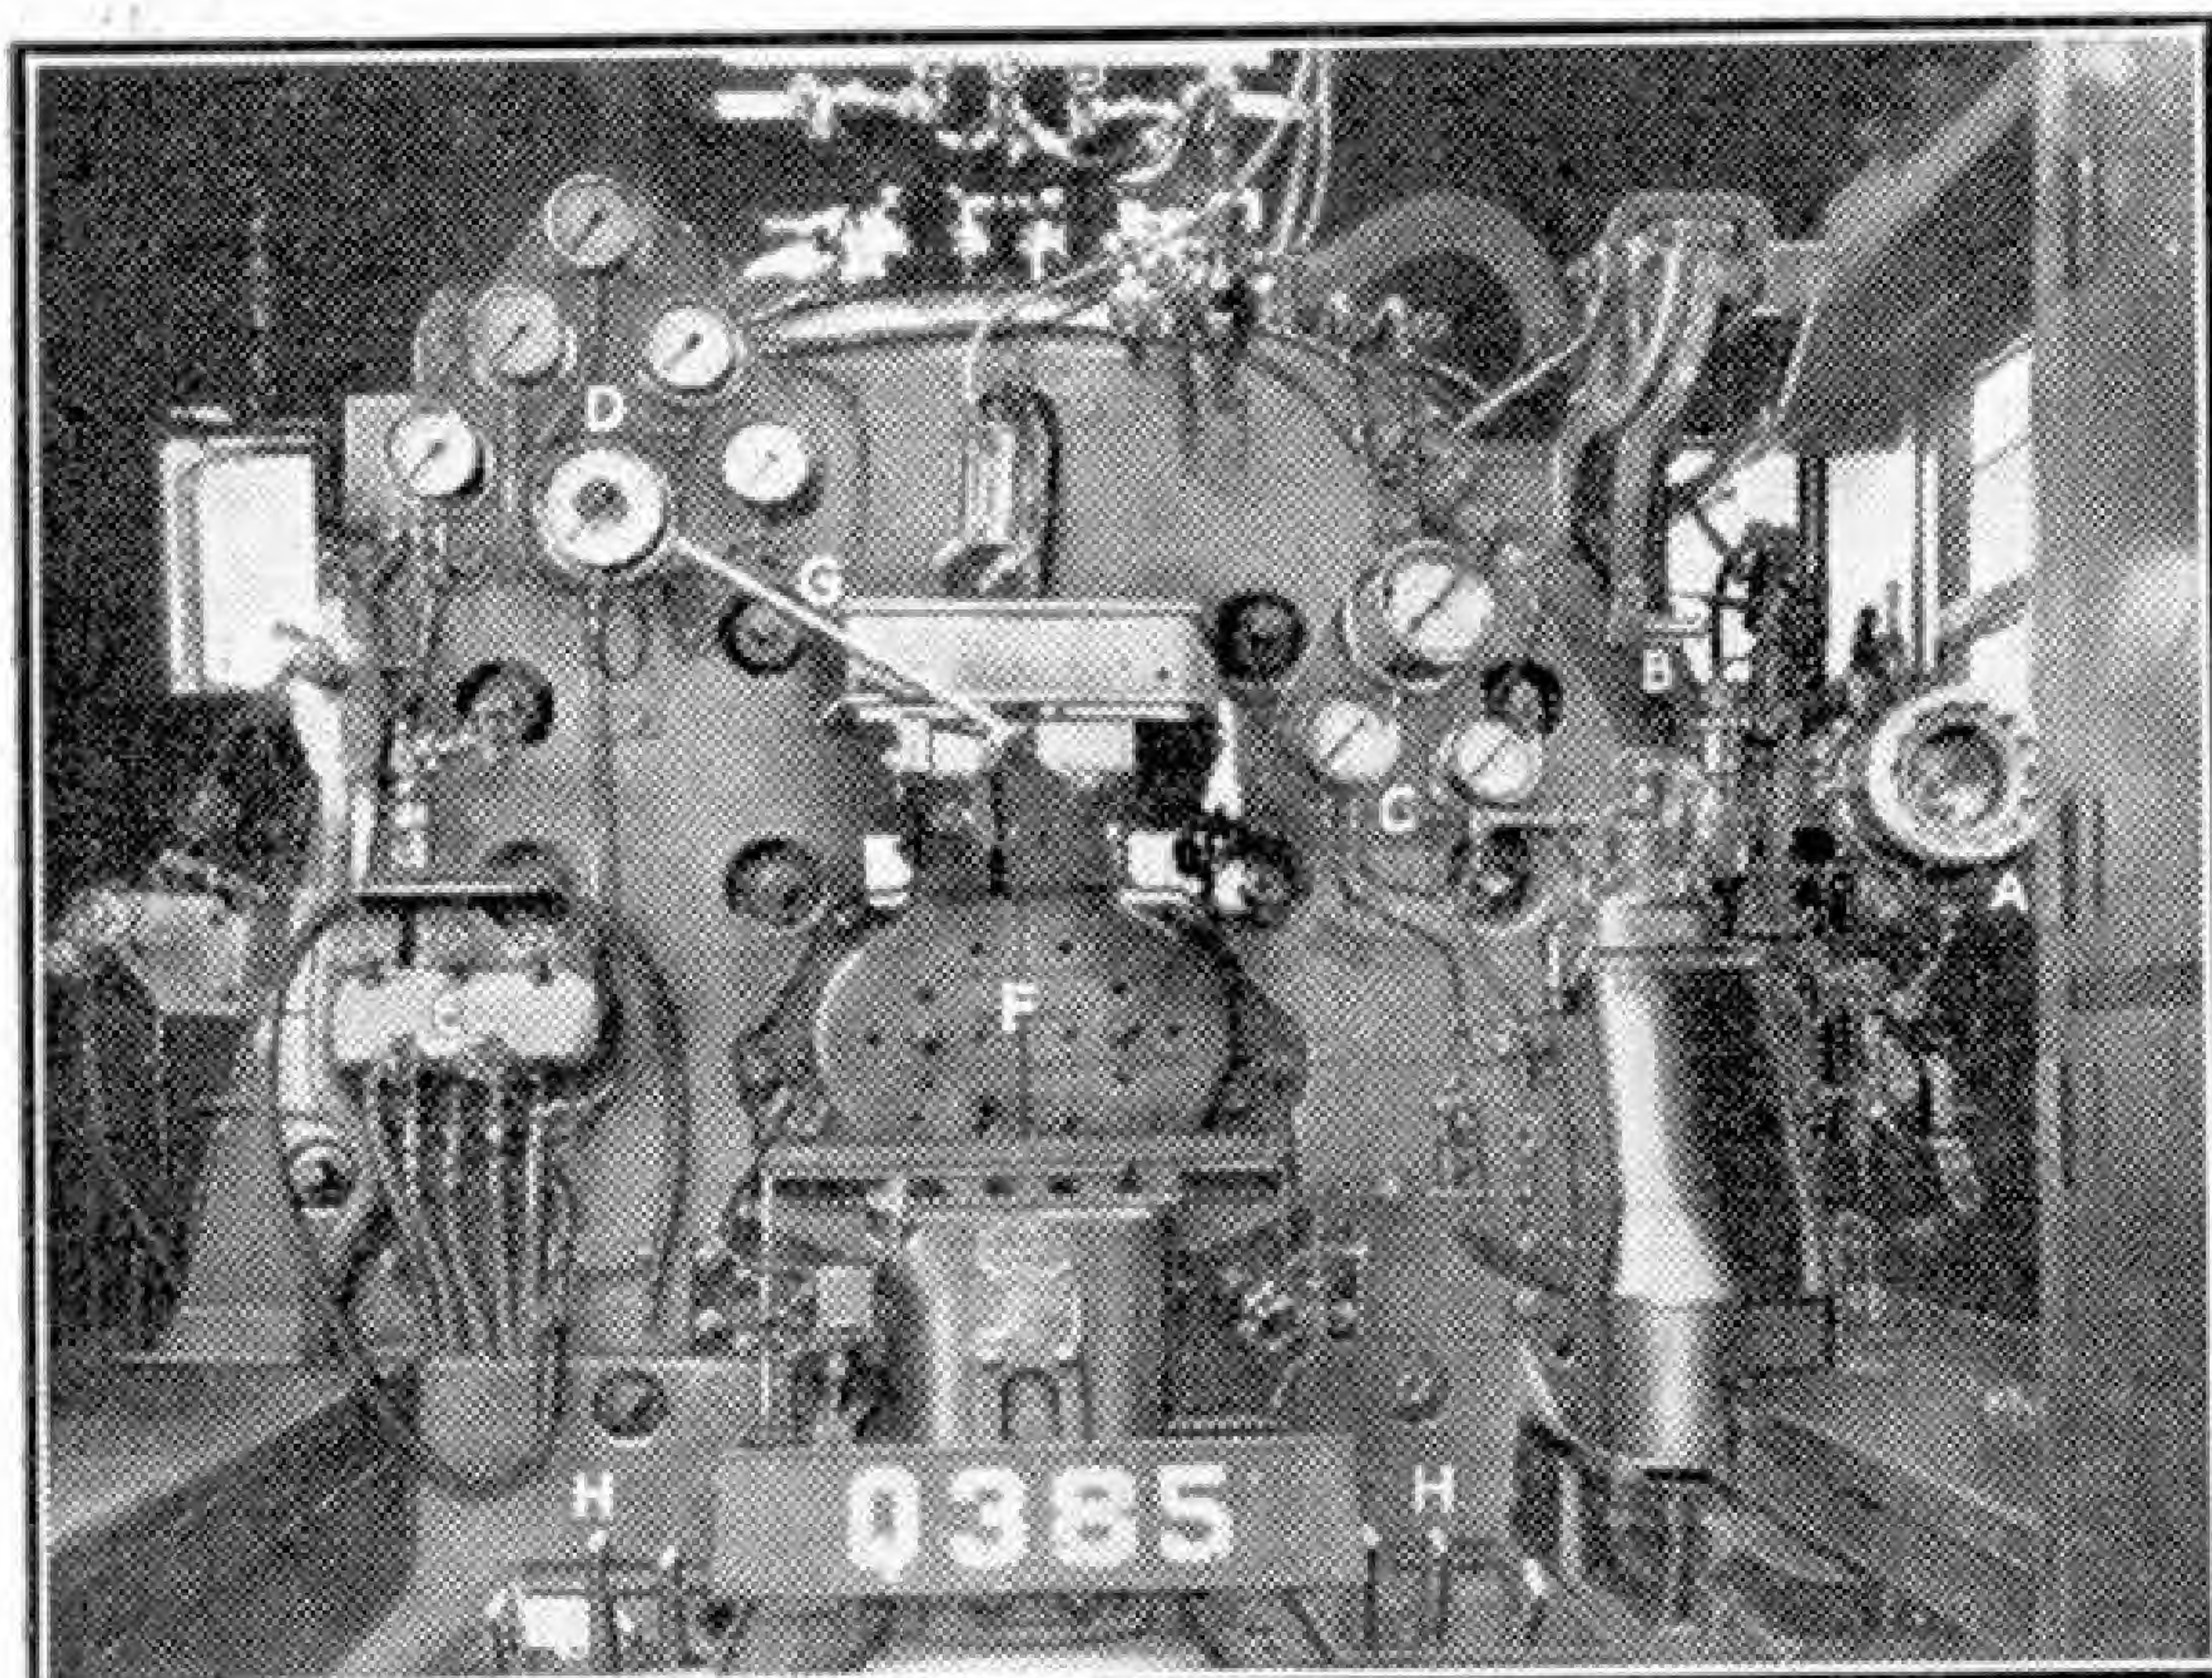

Fig. 2. Cab of a C.P.R. 2800 H1d "Hudson" class locomotive.
During the run the grate had been rocked once or twice by a long detachable lever fitted over three stubs (H) that can be seen on each side of the floor in Fig. 2. They are lettered to indicate back, front, and centre, as the grate is in three sections. This breaks up clinker, much of which, with ash, drops through into the ash-pan, a much better way of getting rid of it than lifting it out through the fire-door with a long-handled shovel.
A few words about the cab and its fittings. Fig. 2 shows most of them; the engineer's are on the right and the fireman's on the left. The wheel with the serrated rim (A) is the reverse, air-operated. No effort is needed to work it; the little handle above it does the trick, and with a whirr the wheel spins, and the gear shoots forward or back, as required. Full valve-travel, from end to end, takes but a couple of seconds. The throttle-lever (B) hangs down from overhead, and is held in any position by catch and ratchet. To the left of the reverse are (C) brake controls, the gauges showing steam and exhaust pressure, and the brake dials. On the fireman's side are gauges (D) showing steam-pressure, steam-heat, stoker-engine pressure, feedwater pressure, etc. To